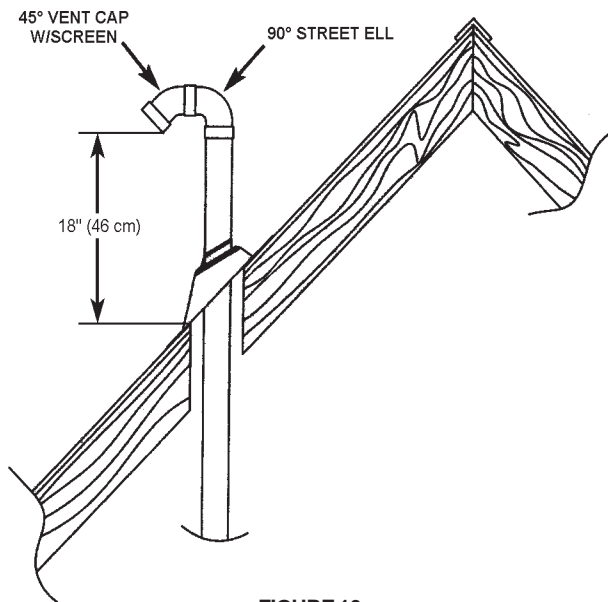

FIGURE 10
- The Power Direct Vent inlet and outlet terminals shall terminate at least 18" (46 cm) above the roof surface. See Figure 10.